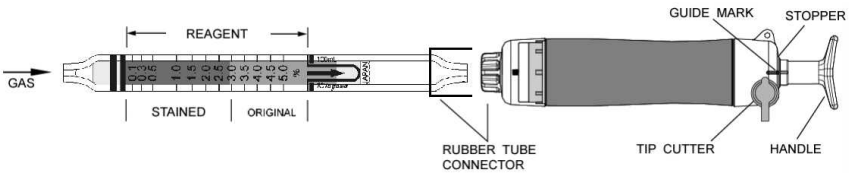

Fig.1
- ② Insert the detector tube into the aspirating pump securely as shown in Fig.1. (Arrow mark shall point to the pump.)
- ③ Align the guide marks on the shaft and stopper of the aspirating pump.
- ④ Pull the pump handle at a full stroke until it locks and wait for 1.5 minutes or until the completion of sampling is confirmed with the flow indicator of the pump. (See descriptions about the flow indicator in the instruction manual of the pump.)
- ⑤ On completion of sampling, read the scale at the maximum point of the stained layer. True concentration of Ethyl acetate can be obtained after temperature correction.
- ⑥ In case of Methyl acetate measurement, convert the reading value by using the conversion chart undermentioned. (REFER TO ITEM 4. CONVERSION CHART.) No temperature correction is necessary.